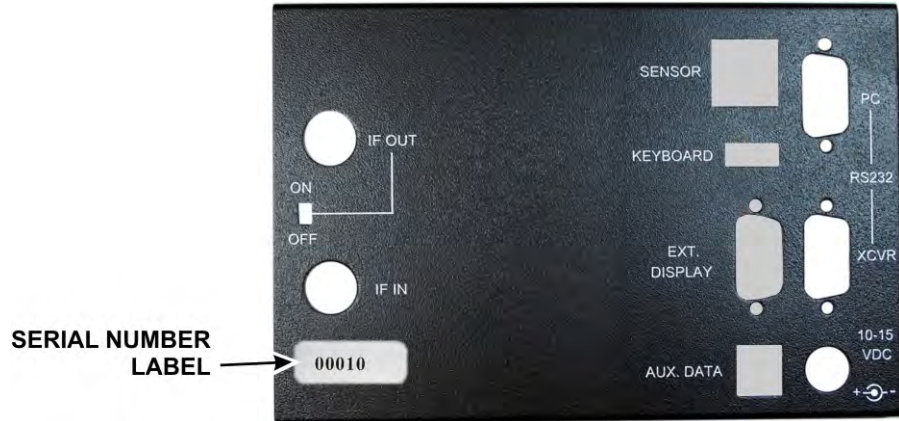

Figure 13. Attaching the Serial Number Label.
- Remove the protective backing from the Serial Number label and carefully position it on the outside of the rear cover as shown in Figure 13.